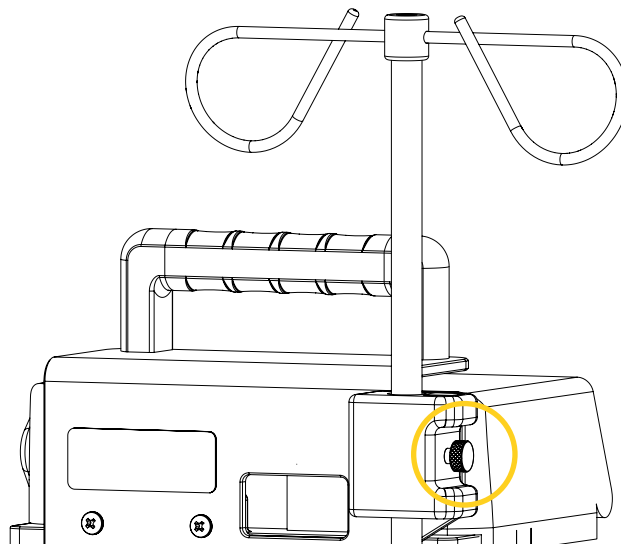

Figure 18: Locating the quick release knob of the IV pole holder
2. Locate the quick release knob on the IV pole holder (Figure 18).